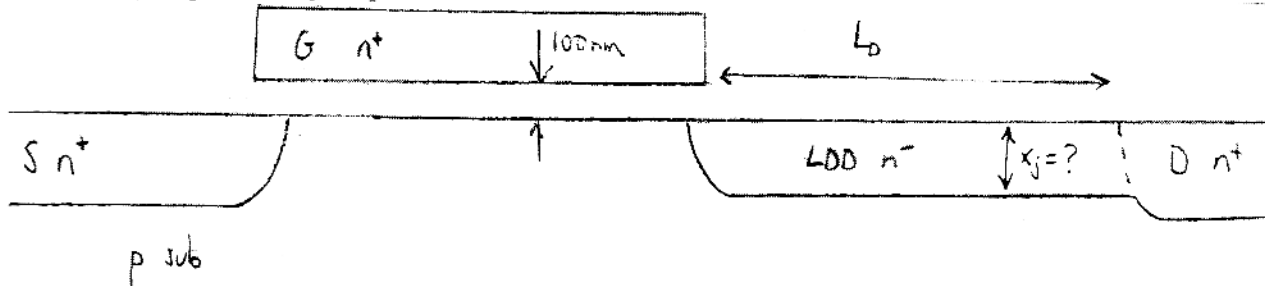

Fig. 7.1
7. Fig. 7.1 shows a cross-section through a high voltage MOSFET that could be made in a modified ELEC4609 nMOS process. The device has a lightly doped drain (LDD) region extending from the edge of the gate a distance L_D to a more heavily doped n^+ drain contact. The gate oxide thickness is 100 nm. The device is formed in a uniformly-doped (100) p -type substrate of 10 Ωcm resistivity. The polysilicon gate is heavily doped with phosphorus.